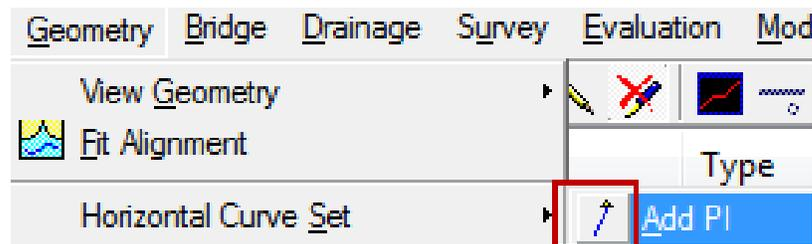

Figure 10 - ADD Horizontal PI
- F. Create the horizontal alignment. Click on **Geometry > Horizontal Curve Set > Add PI**. (Figure 10)